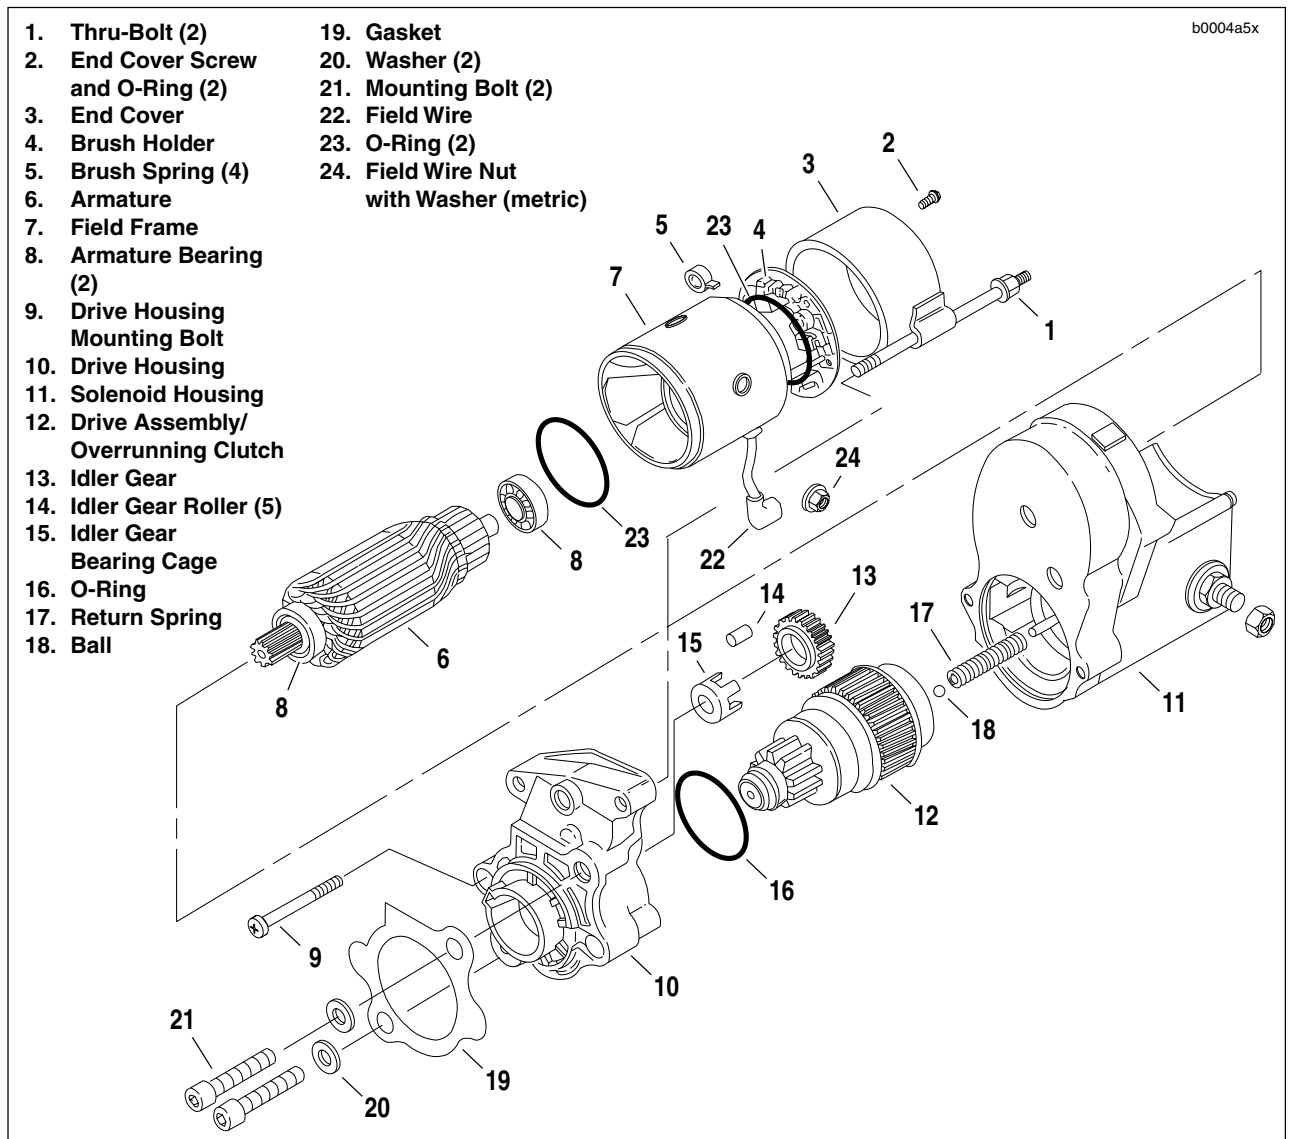

Figure 5-26. Starter Assembly
2. See Figure 5-26. When installing drive assembly components, open end of idler bearing cage (15) faces toward solenoid.
3. When installing drive housing (10) to solenoid housing (11), use **new** O-ring (16). Be sure to install return spring (17) and ball (18).